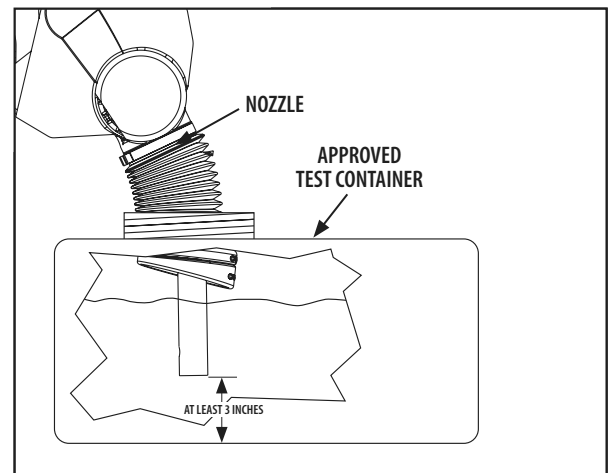

FIGURE 15
- 3) Immerse nozzle spout tip into gasoline within the approved test container. The nozzle tip must be at least three (3) inches from the bottom of the container to prevent back-pressure in the spout. (*Figure 15*)